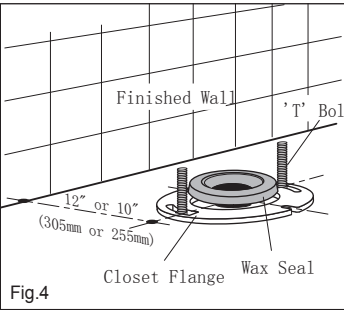

Fig.4
2. Position wax seal and offset adaptor onto 'T' bolts as detailed in Fig. 4 and 5, ensuring that the offset adaptor is positioned for 10" (255mm) or 12" (305mm) rough in as detailed in Fig.1.